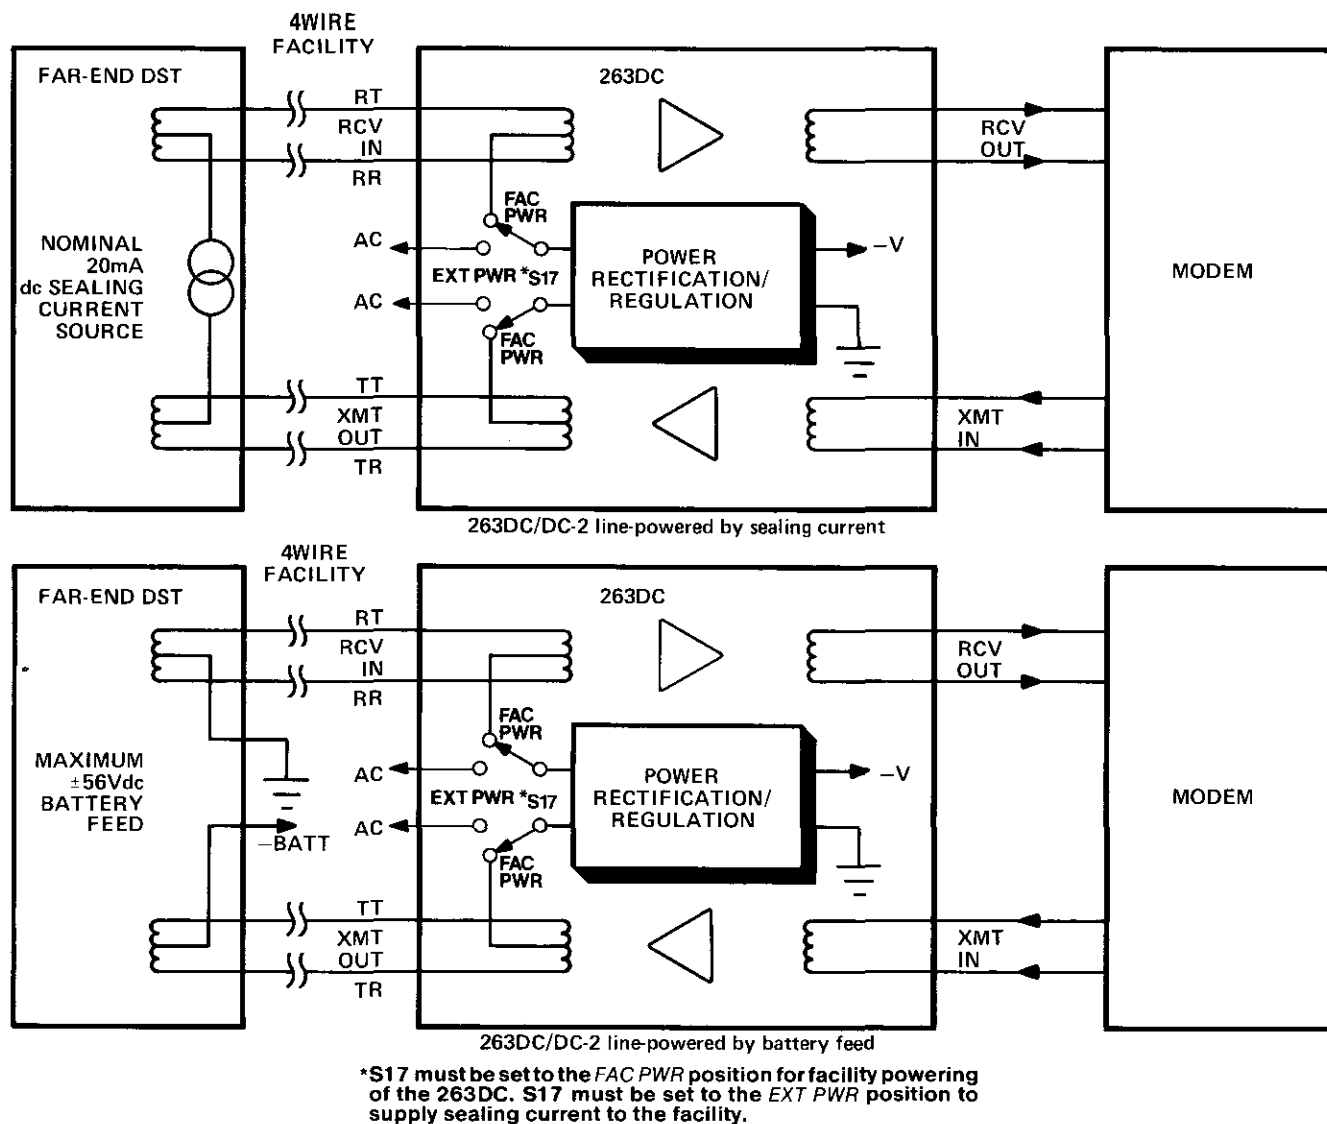

figure 7. 263DC remote powering schemes
2.13 The 263DC can be powered locally from an external source of either nominal 26Vac or -22 to -56Vdc, or it can be powered remotely from dc applied at the far end of the facility and derived from the facility by the 263DC's simplex leads. The power source is selected by a switch option that connects the input of the 263DC's power rectification/regulation circuitry to the AC terminals of TB1 or to the simplex leads. When powered externally, the 263DC requires 18 to 26Vac input at 7.5VA or -22 to -56Vdc input at 15mA minimum. The required ac input can be supplied from a commercial 120Vac, 60Hz grounded outlet by using a Tellabs 8015 Transformer (ordered separately). When powered remotely, i.e., facility-powered, the 263DC requires a minimum of 20mA dc, which can be supplied by a regulated sealing-current source or by direct battery feed to the 4wire loop. To ensure proper operation of the 263DC when it is facility-powered, the loop length between the 263DC and the power source should not exceed 1000 ohms for sealing current or 2000 ohms for battery feed. Also, when powered by battery feed, the voltage across the 263DC's simplex leads must not exceed 56Vdc. Both facility-powering schemes are shown in figure 7.
then plug the 8015 into a grounded 120Vac, 60Hz outlet. When the 263DC is facility-powered, connect a regulated source of 20mA sealing current or nominal 48Vdc battery across the facility at the far end as shown in figure 7. Option switch S17 must be set to the proper position for either external power or facility power; see paragraph 3.12. As stated above, power connections to the 263DC should be made only **after** all other connections are made and **after** the unit is properly optioned.